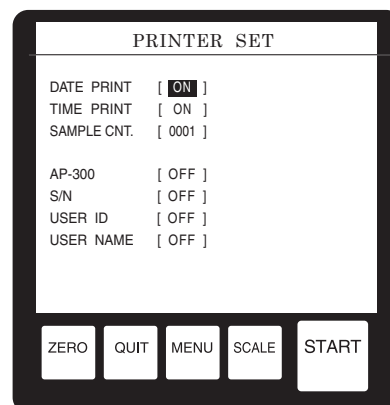

Fig.12-6
- c) The screen shown in Fig.12-6, which is the default setting, will appear on the display panel.